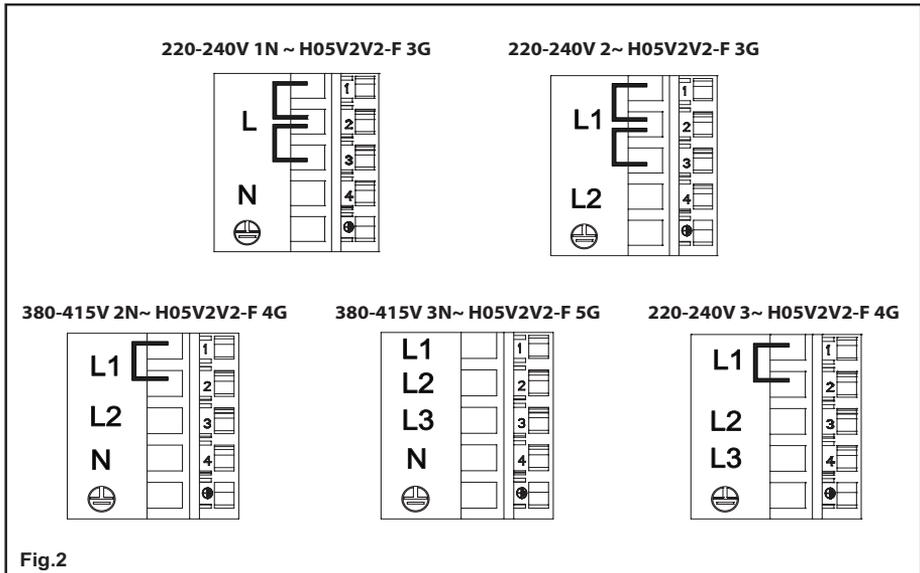

Fig.2
• **Electrical connections (Fig.2)**